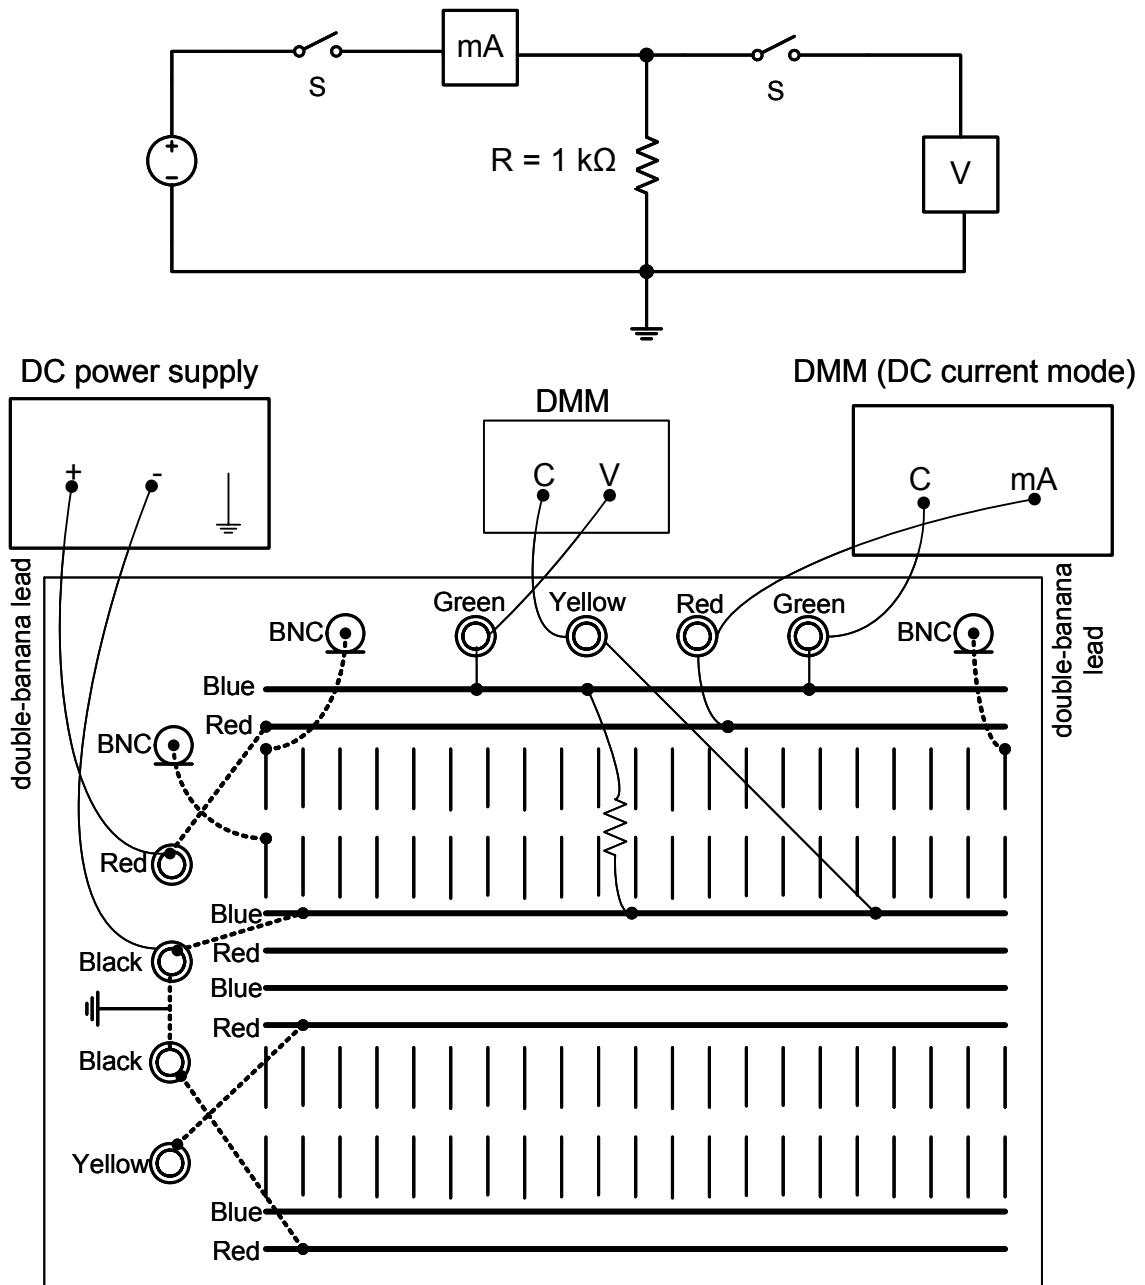

Figure EE.3
**Step 3:** Connect the circuit as shown in Figure EE.3 on the next page, using hook-up wires and both DMMs as shown. This way the voltage across and the current through the resistor can be measured simultaneously.